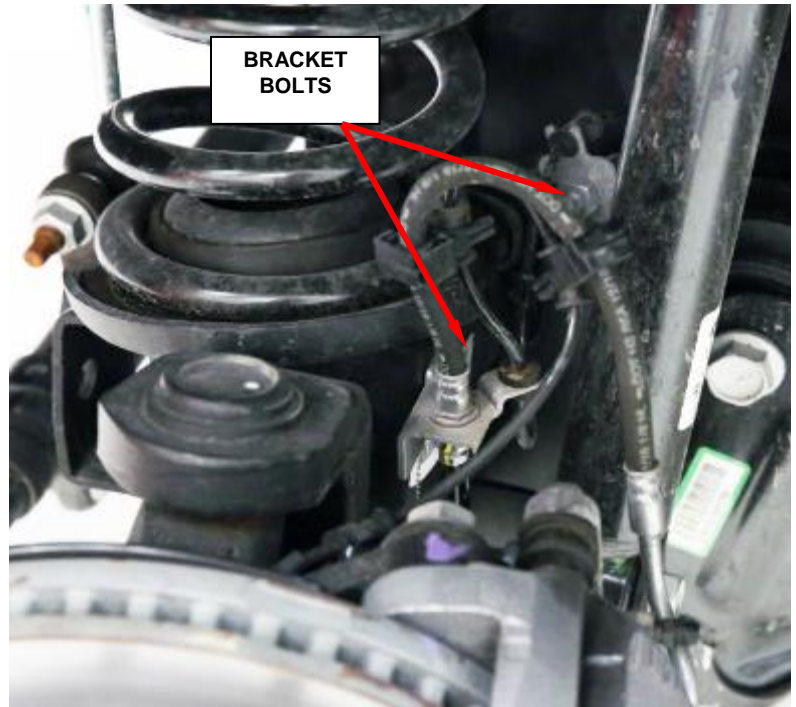

Figure 2 – Brake Hose Bracket Bolts (Left Side Shown)
6. Remove and save the three brake hose bracket bolts (Figures 2 and 3).